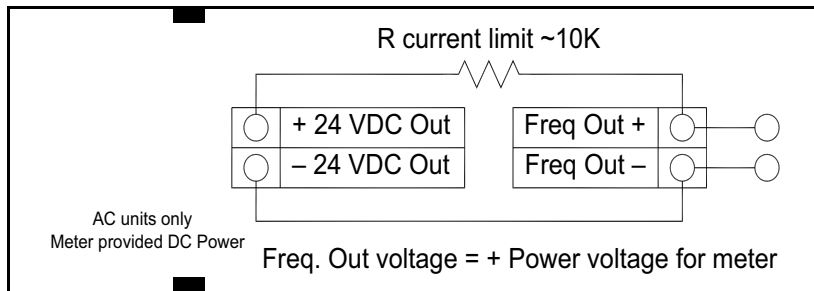

Figure 41: Isolated Frequency Output Using Meter-Provided Power Supply
- For AC powered meters only, use the internal 24 VDC power supply (see *Figure 41 on page 43*). Use this option if the voltage of the frequency output is the same as the voltage supplied to the circuit.